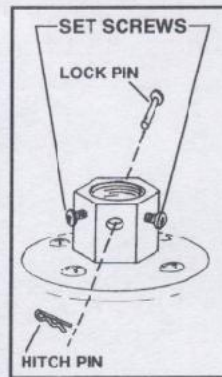

FIG. 6
**Step 2.** Loosen the two set screws in the motor coupling. Also remove the hitch pin and lock pin from the motor coupling. (Fig. 6)